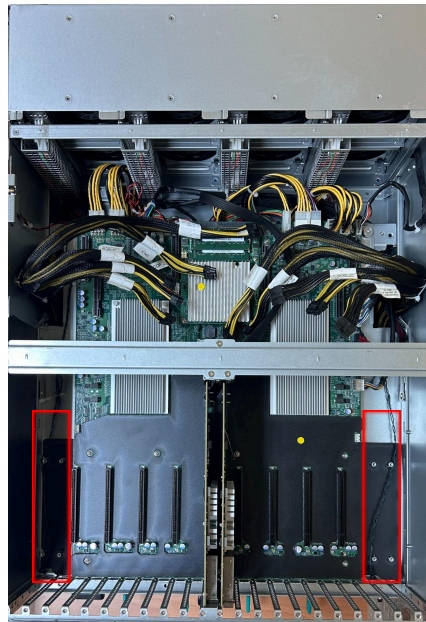

Figure 22. 10 GPUs with 2 expansion cable sets (cable CEMs)
**Step 2. Verify SKU Configuration:** Open the chassis and check the expansion cable set (Cable CEMs) count (refer to Figure 22):